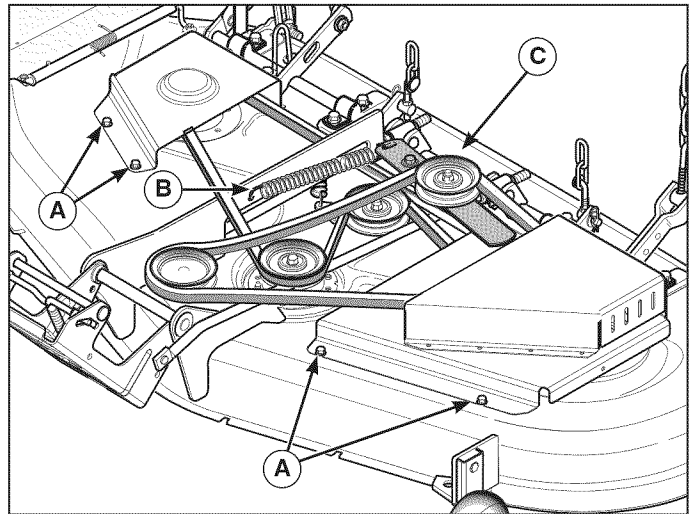

Figure 25
3. Remove screws and covers (A, Figure 25) for left and right blade spindle.
5. Using a pair of locking pliers or a spring puller, remove the idler pulley spring (B) from the slot in mower deck.
6. Loosen the capscrew (C) that attaches the idler pulley to the bracket. The belt can now be slipped between the pulley and idler bracket hub.